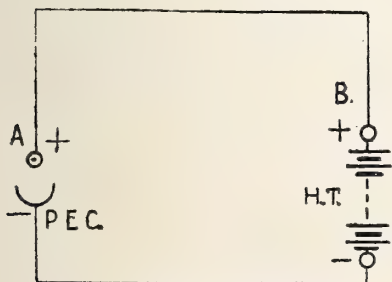

FIGURE 1. Basic electronic circuit, comprising photo-electric cell and H. T. battery.
**T**HIS is a summary of the technique of combining electronic devices, such as a photo-electric cell and a valve (amplifying tube) with other circuit elements so that very small electric pulses, created by the passage of a sound track between a source of light and a p.e.c., can be amplified and used to reproduce sound. Fig. 1 represents the simplest electronic circuit of all, consisting as it does of a p.e.c. (A) with an anode and cathode only, connected to a source of direct current (B). The circuit is what is known as a "static" condition, that is to say, nothing much is happening, but there is a positive potential at the anode. If, now, we allow light to strike